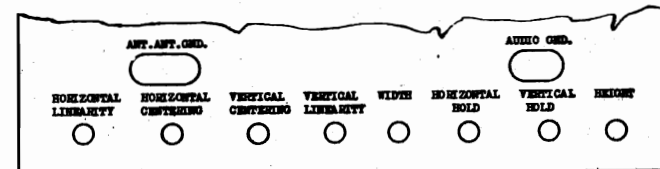

Fig. 3. Rear Cover Control Location
The discriminator circuit for a frequency-modulated signal input must secure the audio information by operating on frequency variations. Referring to the schematic diagram, Fig. 3, the frequency-modulated (FM) signal, after passing through the 6SJ7 limiter tube, is applied to the primary winding of the detector transformer (T-12). The secondary is a center tapped winding with the outer ends connected to the 6H6 detector plates as shown. Two 100,000 ohm resistors (R-25 and R-26) are connected in series across the 6H6 cathodes and it is across these resistors that the audio signal appears. The detector transformer (T-12) is tuned to the intermediate frequency (2.1 MC). An I.F. signal of 2.1 MC which is not modulated will swing the detector plates positive and negative an equal amount resulting in equal DC voltages appearing across diode resistors R-25 and R-26. Since these voltages are of opposite polarity the resultant voltage measured across the diode resistors will be zero. When the incoming I.F. signal is frequency modulated it will be swinging above and below the intermediate frequency of 2.1 MC by an amount proportional to the degree of modulation. As the modulated signal swings off the resonant frequency of 2.1 MC unequal voltages will be developed across resistors R-25 and R-26. The resultant voltage measured across both resistors will be equal to the differ-